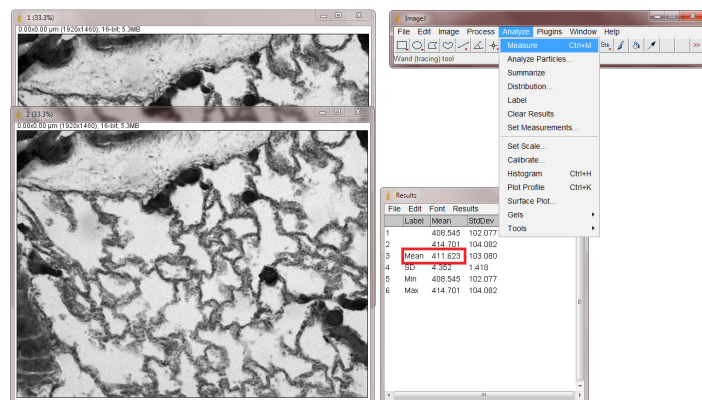

Figure 5
3. In ImageJ, Measure the means of both images and average them. We'll call this $\text{Mean}_{\text{Image1, Image2}}$ (Figure 5).